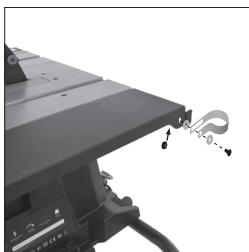

Fig. 24
- Attach the dust extraction hose clip to the rear of the RH (right hand) side table extension using the fixings labelled **F, H** and **M** (**Fig. 24**).